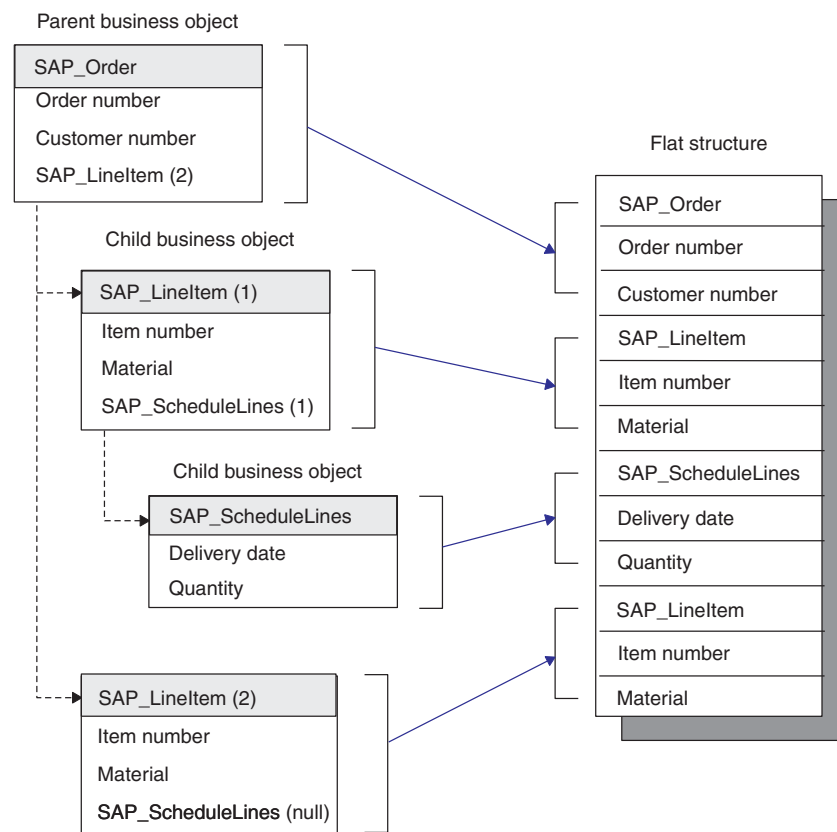

Figure 13. Conversion from a business object to a flat structure
Figure 13 illustrates the data conversion of a WebSphere business object for SAP into a flat data structure. The conversion of data always follows the rule of depth first and then breadth. In the example, the top-level parent business object, SAP_Order, has two children, SAP_LineItem (1) and SAP_LineItem (2), which are considered peers. SAP_LineItem (1) has one child business object, SAP_ScheduleLines.